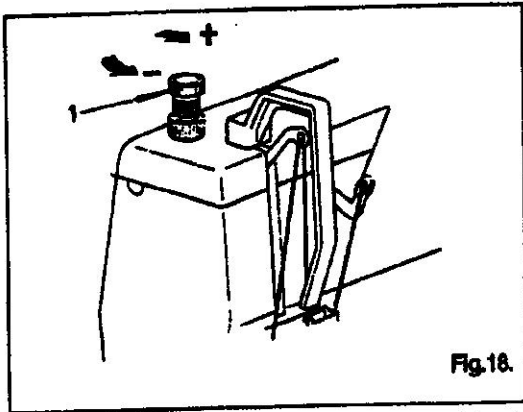

Fig.18.
To regulate the presser foot pressure, turn knurled thumb screw (1), Fig.18, toward left of right as required.